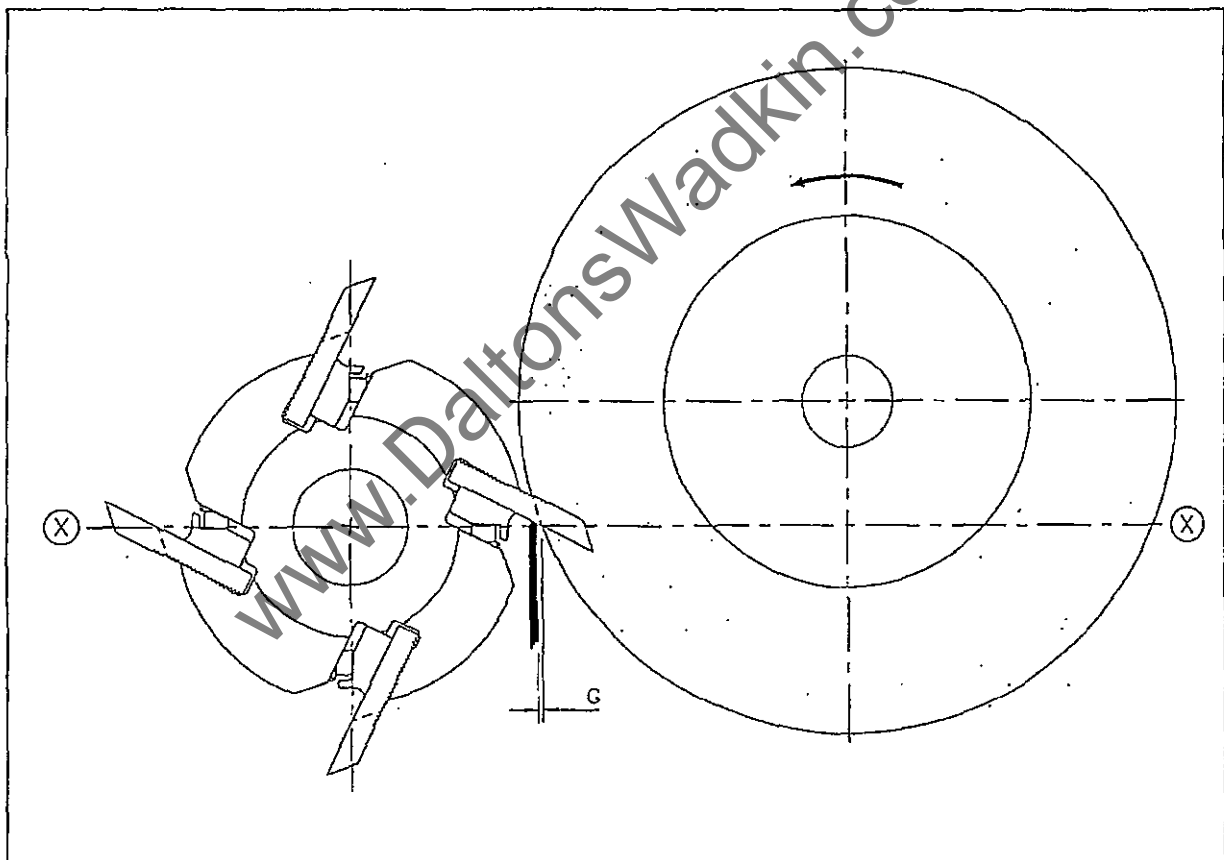

Fig. 1c
Theoretically the cutter rest and the ground edge of the cutter should be at the same point, [ the theoretical grinding point ], however for practical considerations there must be a gap (G) between the cutter rest and the wheel. Fig. 1c.